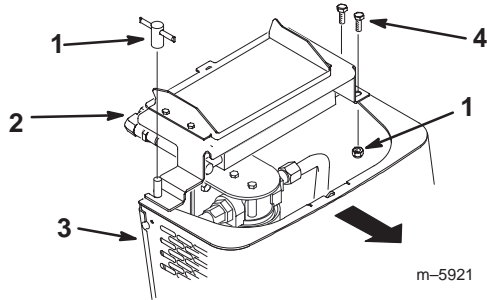

Figure 24
- Remove the shoulder bolts, double washer, and nuts securing the oil cooler to the top of the front screen (Fig. 24).